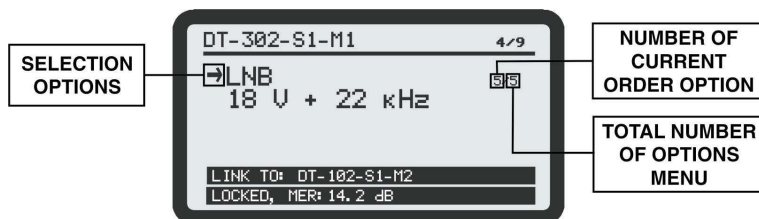

Figure 13.-
- 5.- An arrow on the left-side of the selected option, means that you are into the menu (Fig. 13.-). Now you can change the value displayed on the screen or move to another menu.